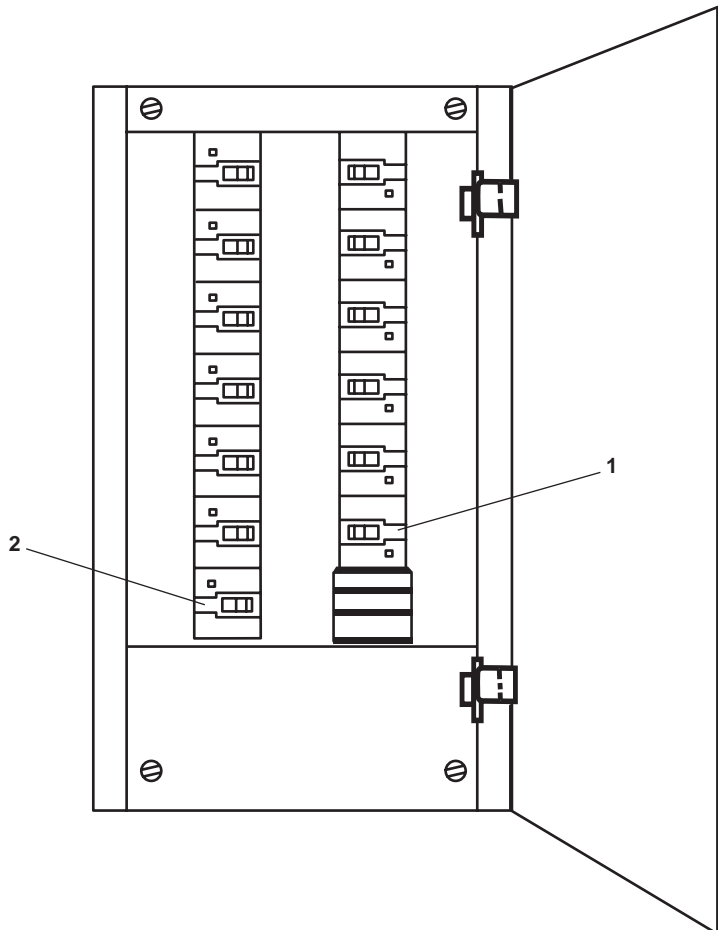

Figure 3. 440V Power Panel No. 4
5. Set to OFF SEWAGE DISCHARGE PUMP No. 1. circuit breaker (figure 3, item 1) and SEWAGE DISCHARGE PUMP No. 2. (figure 3, item 2) circuit breaker in 440V power panel No. 1 (figure 3, item 2).